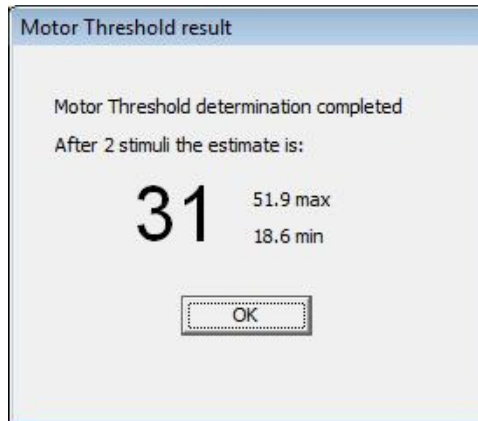

Fig. 100. Motor Threshold result -dialog
7. When the MT determination process ends, the **Motor Threshold** result -dialog is displayed (see Figure 100).